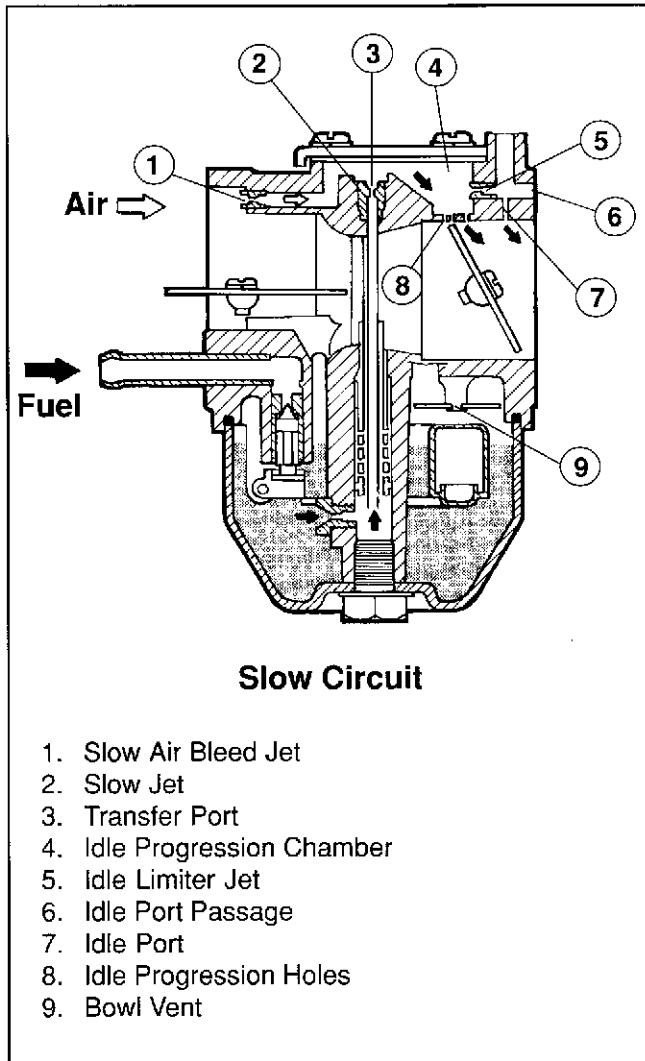

Figure 5-2. Slow Circuit.
**Slow Circuit** (See Figure 5-2): At low speeds the engine operates only on the slow circuit. As a metered amount of air is drawn through the slow air bleed jet, fuel is drawn through the main jet and further metered through the slow jet. Air and fuel are mixed in the body of the slow jet and exit to the transfer port. From the transfer port this air fuel mixture is delivered to the idle progression chamber. From the idle progression chamber the air fuel mixture is metered through the idle port passage. At low idle when the vacuum signal is weak, the air fuel mixture is controlled by the setting of the non-accessible idle adjust screw. This mixture is then mixed with the main body of air and delivered to the engine. As the throttle plate opening increases, greater amounts of air fuel mixture are drawn in through the fixed and metered idle progression holes. As the throttle plate opens further the vacuum signal becomes great enough so the main circuit begins to work.